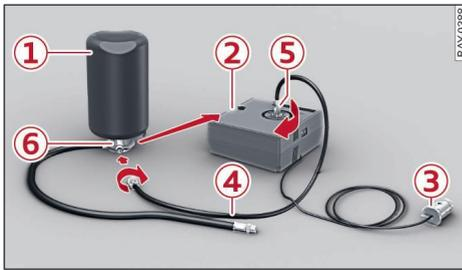

Fig. 132 Components of the tyre repair kit
- ▶ Insert the connector (3) ⇒ Fig. 132 into a socket in the vehicle.